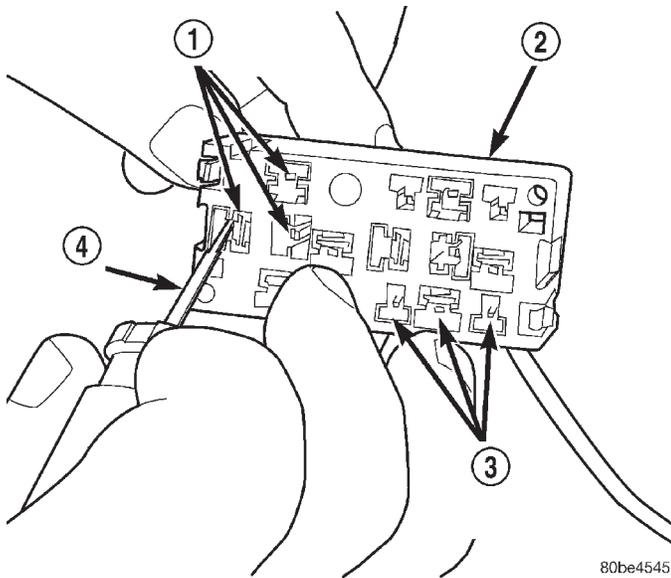

Fig. 15 PDC Relay Cassette Terminal Remove/Install
(4) While pulling gently on the wire from the bottom of the faulty PDC relay cassette, use a terminal pick tool (Special Tool Kit 6680) from the top of the relay cassette to release the latch that secures the terminal in the relay cassette terminal cavity (Fig. 15).
(5) From the bottom of the faulty PDC relay cassette, remove the wire and terminal from the relay cassette terminal cavity.
(6) Make all necessary repairs and splices to the wire for the removed terminal. Refer to **Wiring Repair** in the index of this service manual for the location of the wiring repair procedures.
(7) From the bottom of the PDC housing, align and insert the removed wire and terminal into the correct terminal cavity of the replacement relay cassette. Push the wire and terminal up into the relay cassette terminal cavity until it is fully engaged by the latch.
(8) Repeat Step 4, Step 5, Step 6 and Step 7 one wire and terminal at a time until each of the wires and terminals have been transferred from the faulty PDC relay cassette into the replacement relay cassette.
(9) Install the PDC relay wedge into the replacement PDC relay cassette.